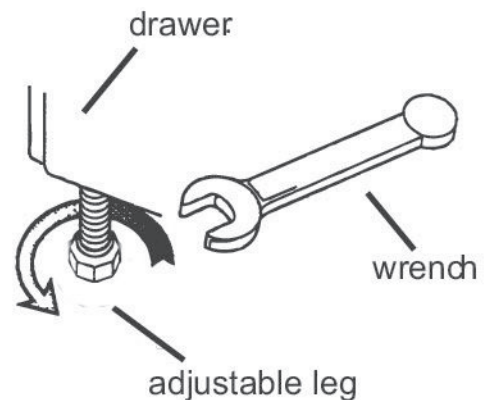

Figure 7: Adjusting range height
11. Slide the range back into position. If necessary, to avoid scratching the countertop, adjust the height of the range by adjusting the range feet (see Figure 7: Adjusting range height). Be sure to engage the anti-tip bracket. See the Tip Over Hazard Warning earlier in this instruction and also in the *Gas Slide-In Range Installation Manual*.